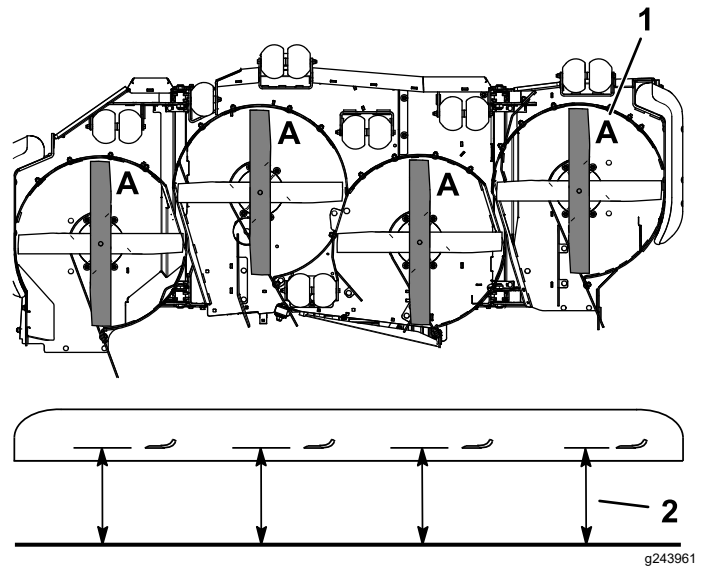

Figure 76
3. Rotate the blades until the ends face forward and backward (Figure 76).
4. Measure from a level surface to the cutting edge, position A, of the blades (Figure 76).